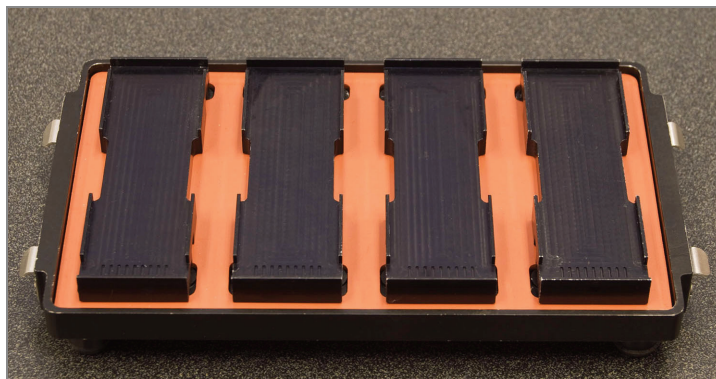

Figure 152 Hyb Chamber Inserts in Hyb Chamber
2. Remove the Hyb Chamber lid and place the Hyb Chamber inserts inside the Hyb Chamber as shown (Figure 152). Position the barcode over the ridges indicated on the Hyb Chamber.